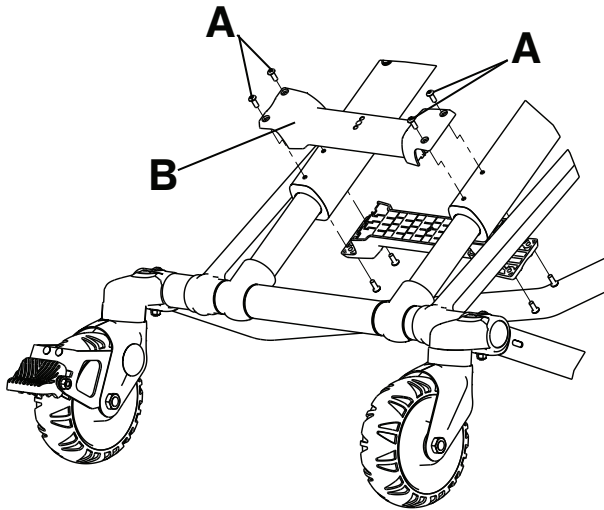

Figure 9 – Remove the base stiffener
1. Using a T25 Torx driver, remove the four button head cap screws (A) from the base stiffener (B) (Figure 9). Save the screws.